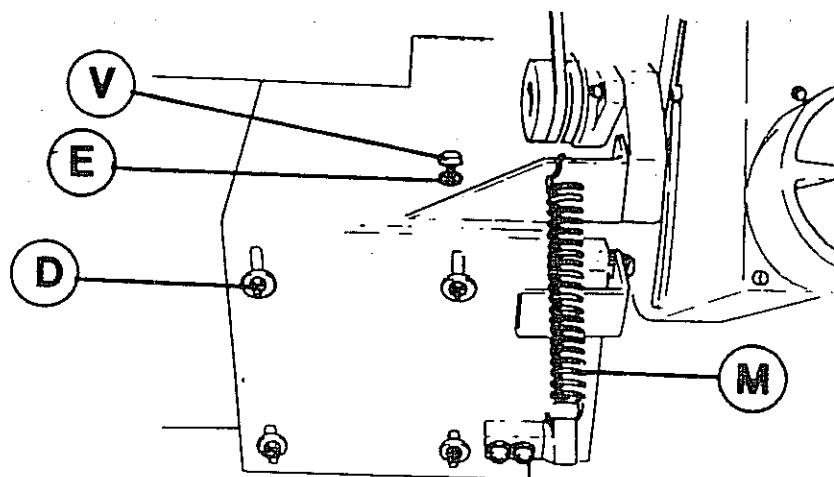

Fig.48
To increase the belts tension loosen the four nuts (D fig.48) and nut (E); then screw down screw (V), tighten nut (E). The belt tension is right when applying a force (approx. 3 kg) you get an elastic deflection of 5 mm
The belt of the scorer unit is always stretched by spring (M fig.48)